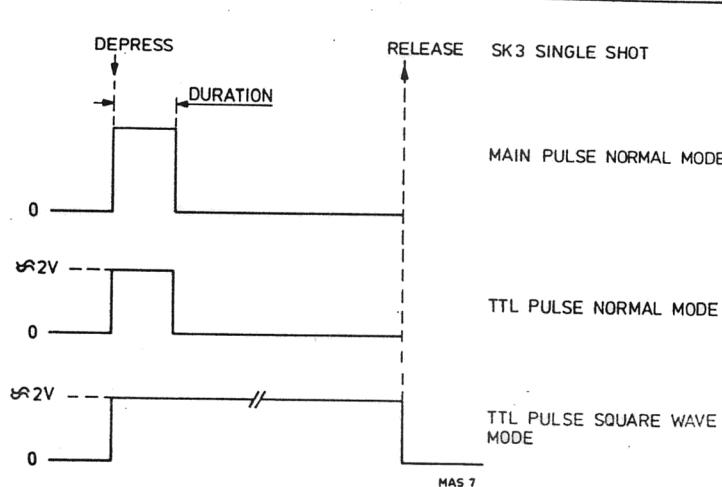

Fig. VI-4 Single shot PM 5705
- Note that one single pulse is now generated similar to fig. VI-4. Its duration, amplitude etc. are set with the front panel controls.
- Depress the SINGLE SHOT switch and observe a single pulse at TTL levels and set DURATION. Refer to fig. VI-4.
- Refer to fig. VI-4.